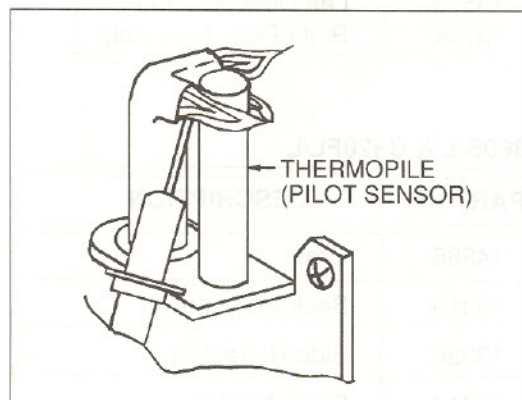

Figure 5
2. Adjust the pilot key to provide properly sized flame. See Figure 5.
Periodically visually check the flame of the pilot and burner, making sure the flames are steady; not lifting or floating. The flame color should be blue with yellow tips. The top 3/8" of the pilot sensor should be covered with flame. See Figures 5 and 6.